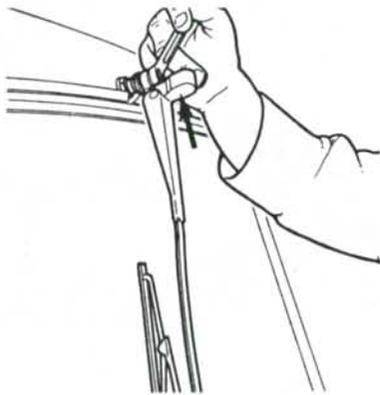

Fig. 148—To remove wiper arm, pull top of arm forward as shown and remove nut retaining arm to motor shaft. Remove wiper arm complete with wiper blade.
**204. R&R WIPER MOTOR.** To remove wiper motor, first move top of arm forward (Fig. 148) and remove nut retaining wiper arm to motor shaft. Remove wiper arm. Remove seal, washer and nut retaining wiper motor to cab roof from motor shaft. Remove panel covering wiper motor from cab roof inside cab, note positions of wires and disconnect and remove wiper motor.